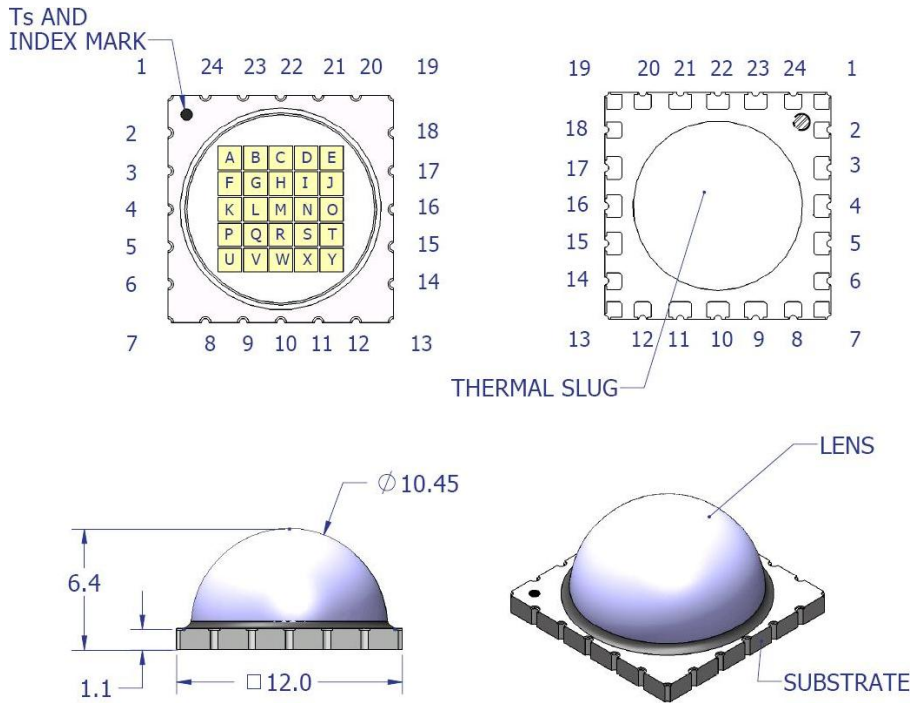

Figure 3: Package outline drawing.
- Ts is a thermal reference point. See for detail Figure 3.
Notes for Figure 3: